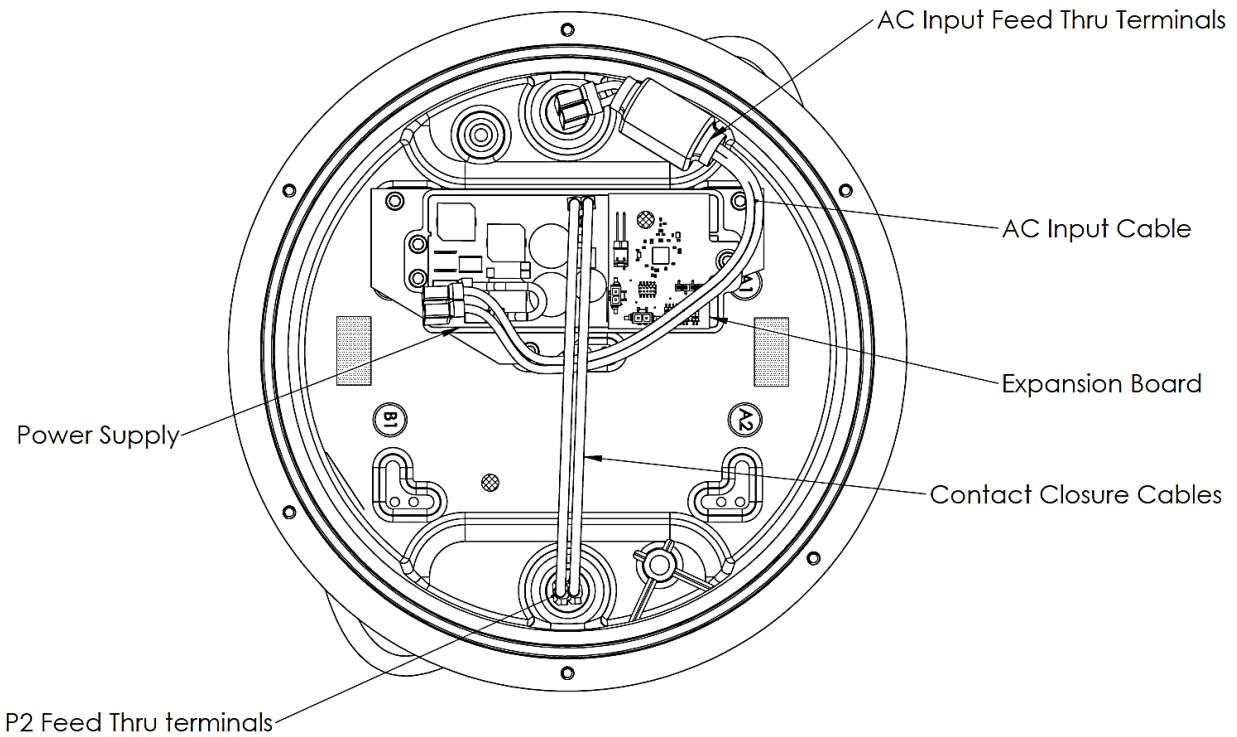
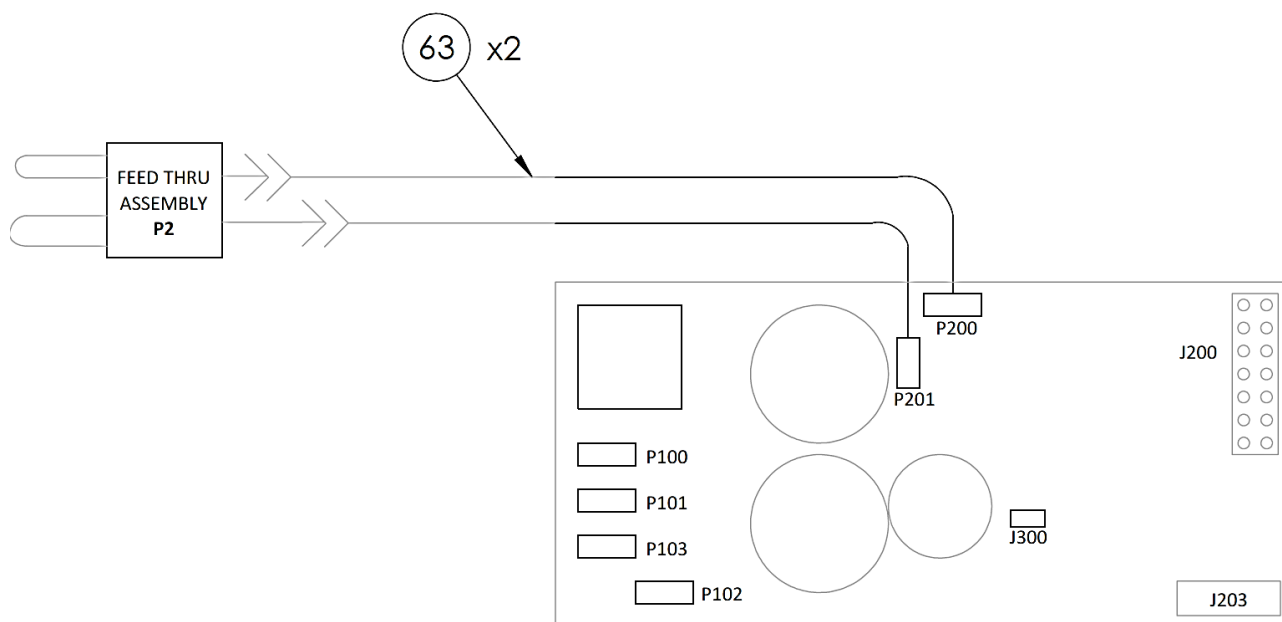

Figure 6B: Installation View of Inner Cover P3 option
Figure 13: Power Supply Wiring Diagram with Logitrac Monitoring
** Logitrac monitoring compatible with Contact-Closure; Additional wiring to A2 pocket required. (see Fig 6B and Fig 13.)